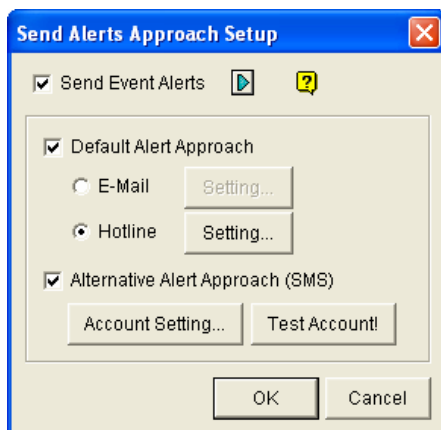

Figure 10-12 Send Alerts Approach Setup
7. Click the **Test Account** button (Figure 10-12). If the connection of both devices is established, the message will appear: *Login SMS Server OK!* If the connection fails, the message will appear: *Connect to SMS Server Fail.*
1. Open the **Send Alerts Approach Setup** dialog box (Figure 10-12).
1. On the main screen, click the **Configure** button (No. 14, Figure 1-2), select **System Configure**, and select **Send Alerts Approach Setup**. The Send Alerts Approach Setup dialog box (Figure 10-12) appears.